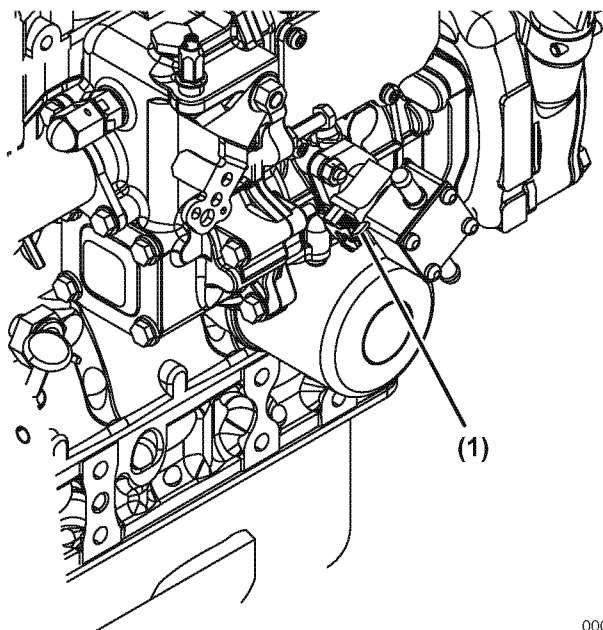

Figure 4-4
1. Operate the fuel priming lever (**Figure 4-4, (1)**) several times until the fuel filter cup is filled with fuel.